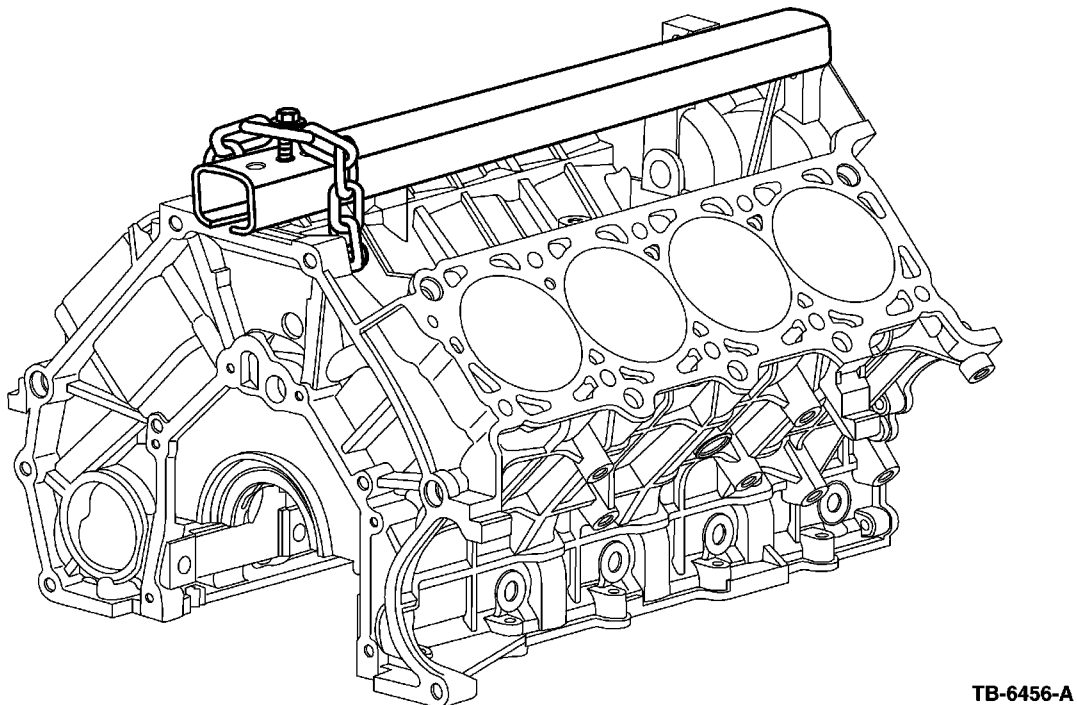

Figure 4 - Article 01-21-10
- If block does not pass checks, a new or remanufactured long block engine assembly must be ordered. For truck applications, which require use of the Modular Engine Lift Bracket 303-F047 (014-00073) for engine removal, use nine links of 5/16 " chain in place of the rear bracket (Figure 4).